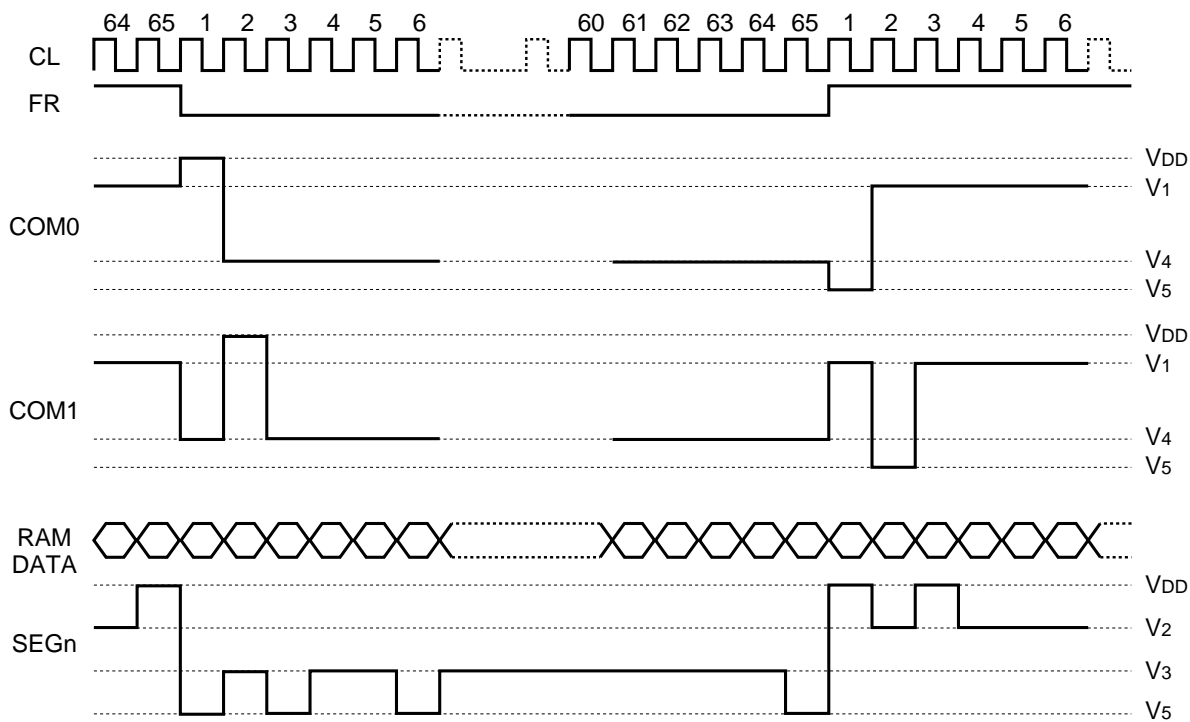

Figure 5
The display timing generator circuit generates the timing signal to the line address circuit and the display data latch circuit using the display clock. The display data is latched into the display data latch circuit synchronized with the display clock, and is output to the data driver output terminal. Reading to the display data liquid crystal driver circuits is completely independent of accesses to the display data RAM by the MPU. Consequently, even if the display data RAM is accessed asynchronously during liquid crystal display, there is absolutely no adverse effect (such as flickering) on the display. Moreover, the display timing generator circuit generates the common timing and the liquid crystal alternating current signal (FR) from the display clock. It generates a drive wave form using a 2 frame alternating current drive method, as is shown in Figure 5, for the liquid crystal drive circuit.